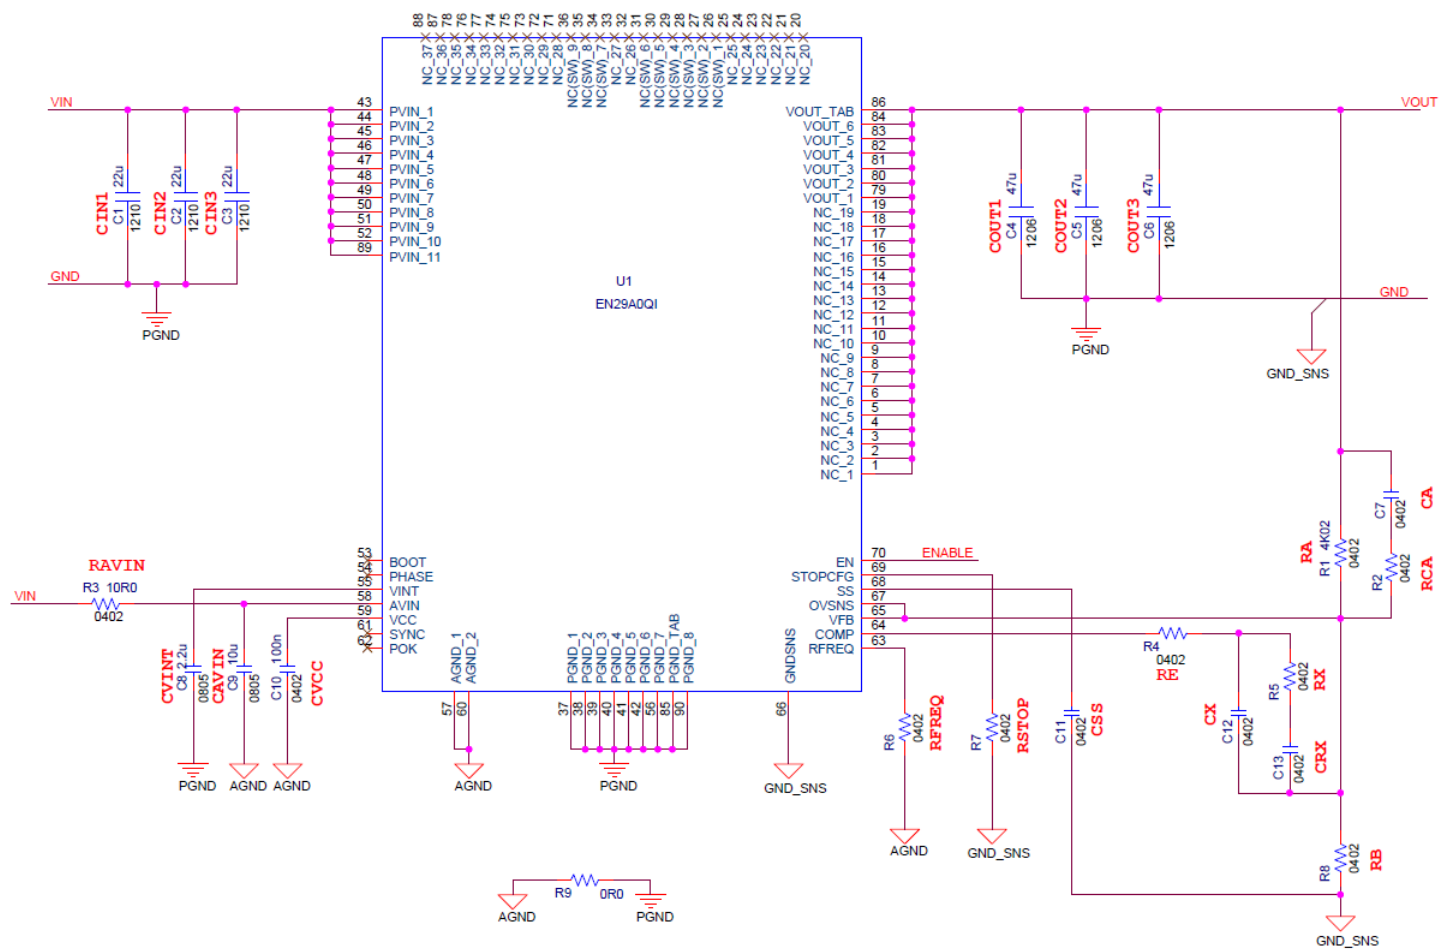
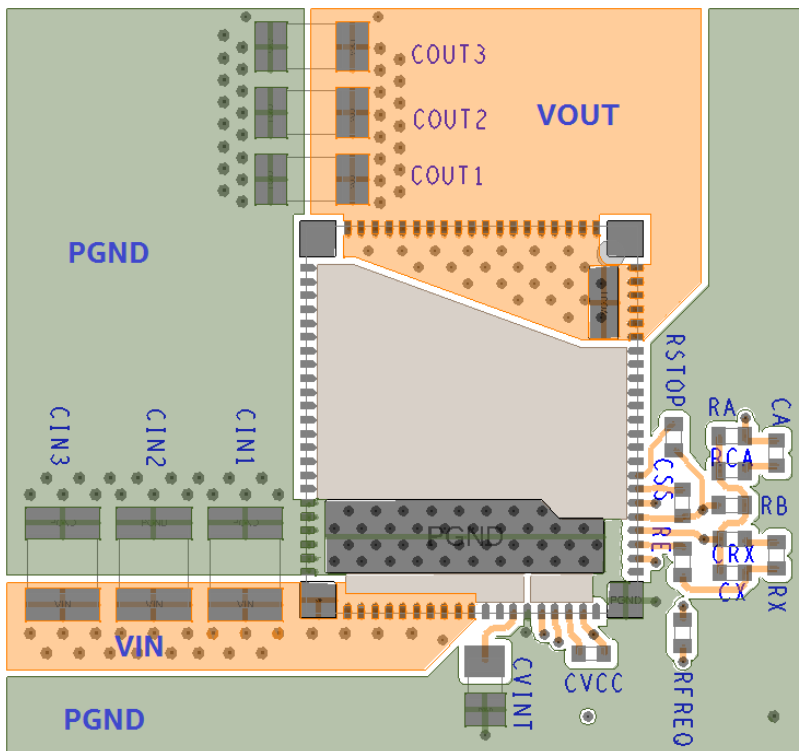
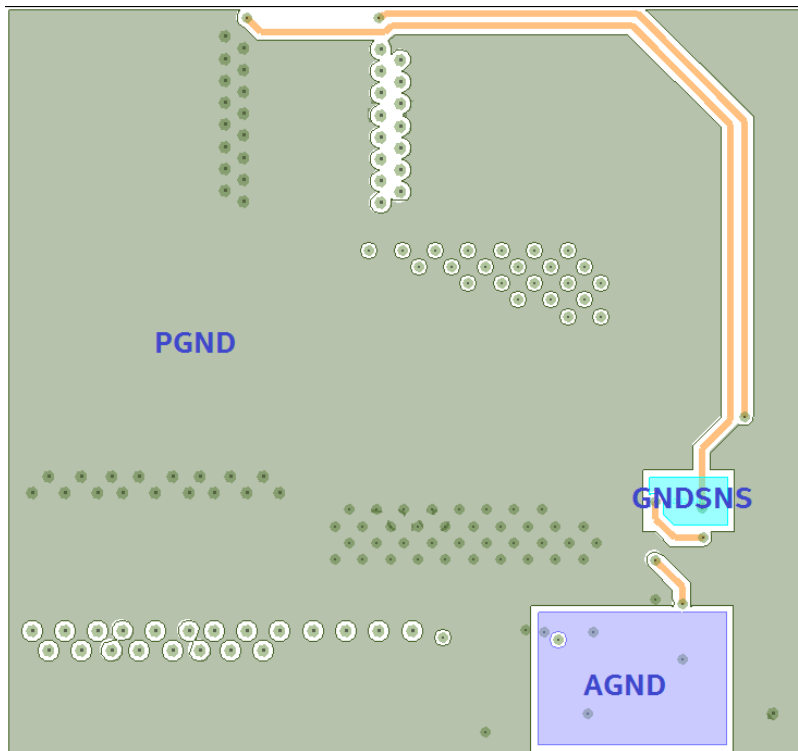

Figure 9: Typical Application Circuit
Figure 10: Top PCB Layer Critical Components and Copper for Minimum Footprint (Top View)
Figure 12: Inner Layer 3 – Grounds
Figures 10-13 shows critical components and traces of a recommended minimum footprint EN29A0QI layout. The Gerber files are available on the Altera website [www.altera.com/enpirion](http://www.altera.com/enpirion) for exact dimensions. Please refer to Figure 9 for the corresponding schematic.
**Recommendation 4:** The corner pads (Pins 87-90) are not connected internally and maybe connected to nearby planes for ease of layout. Figure 9 and Figure 10 show Pin 89 connected to the VIN plane and Pin 90 connected to the PGND plane.
**Recommendation 8:** Keep RA, CA, RCA, RX, CX, RCX and RB close to the VFB pin (see Figure 10). Keep the trace to VFB pin as short as possible. Whenever possible, connect RB directly to the GNDSNS pin instead of going through the GND plane. The AGND should connect to the PGND at a single point from the AGND pin to the 3rd layer PGND plane (shown in Figure 12).
**Recommendation 9:** The layer 1 metal under the device must not be more than shown in Figure 10. See the following section regarding **Exposed Metal on Bottom of Package**. As with any switch-mode DC/DC converter, try not to run sensitive signal or control lines underneath the converter package on other layers.